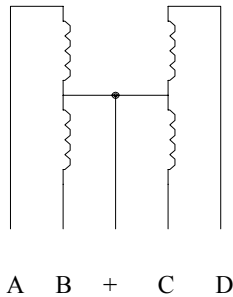
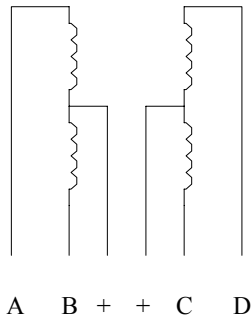

Fig 1. Five-wire stepper motor
Fig 2. Six-wire stepper motor
2. **Unipolar motors.** These have two center-tapped coils which are treated as four coils. These motors can have **five, six or eight wires**. Five-wire motors have the two center-taps commoned internally and brought out as one wire (Fig 1). Six-wire motors bring out each center-tap separately. The two center-taps need to be commoned externally (Fig 2). Eight-wire motors bring out both ends of each coil. The four “center-taps” are joined externally to form one wire. In each case the center-tap(s) are connected to a positive motor power supply. Unipolar motors may be connect as bipolar ones by not using the ‘+’ wires.